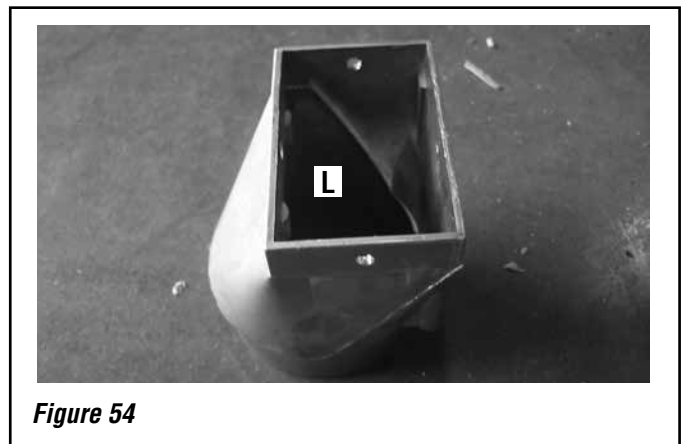

Figure 54
- For a rear vent termination, remove the flue clean out box on the PI40GL pellet insert by removing the three screws (1 on top and 1 on both the right and left side) that hold it in place. Using these same screws, install the rear vent adaptor (L) in place of the flue clean out box (see **Figure 54**).